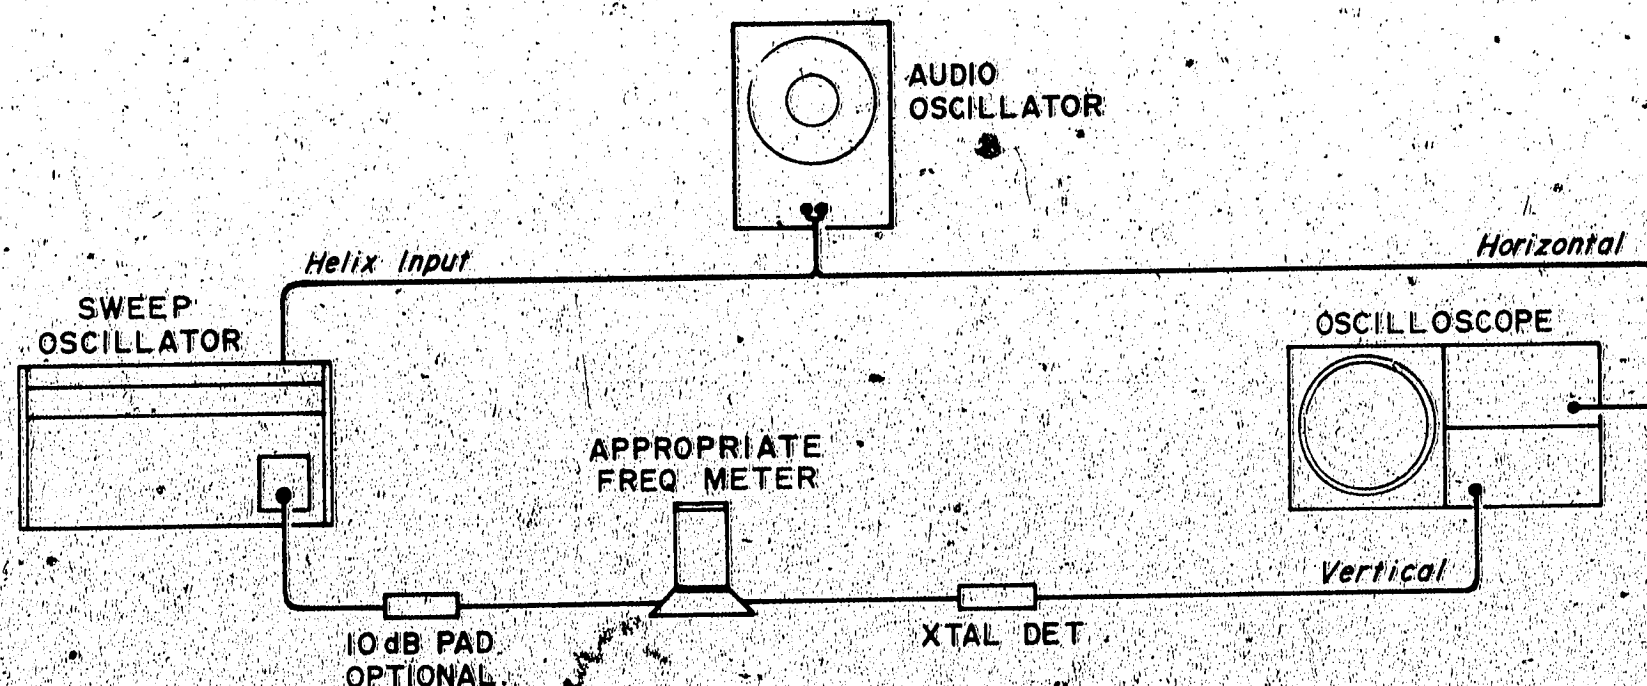

Figure 2. Test Setup for Gain Adjustment
1. Adjust an audio oscillator to 50 Hz and 10 V peak-to-peak and then connect the equipment shown in Figure 2.